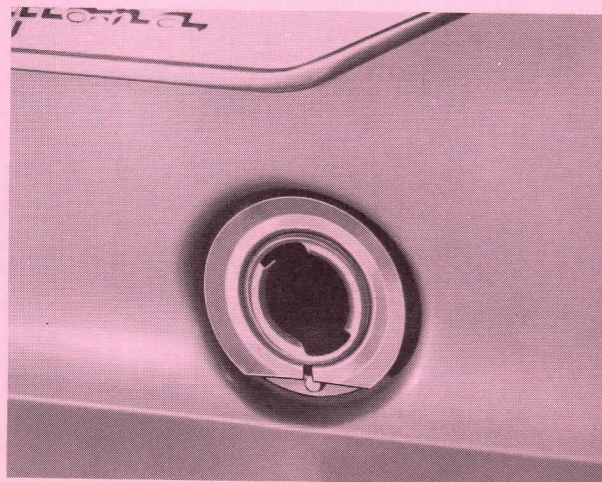

Fig. 2
2. Install Part Number 1562555, Filler Neck Deflector, onto the filler neck with the small diameter flange toward the car, and the cut-off, slotted portion of the deflector downward. (See Figure 2) Properly positioned, the fuel tank cap, when installed, should enshroud the deflector.